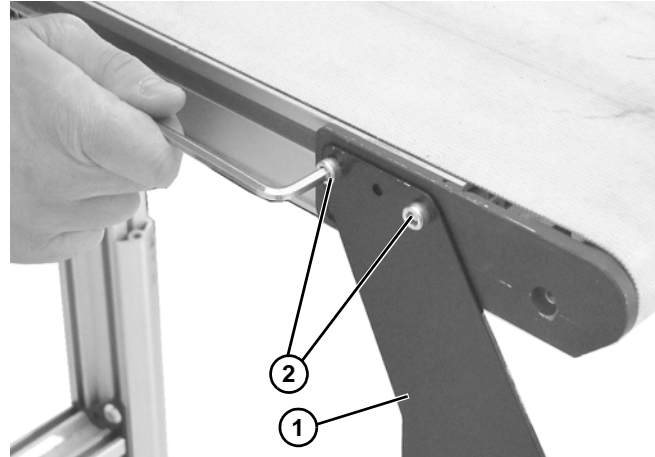

Figure 14
8. Install opposite end support plate (Figure 14, item 1) with screws (Figure 14, item 2). Tighten screws to 80 in-lb (9 Nm).